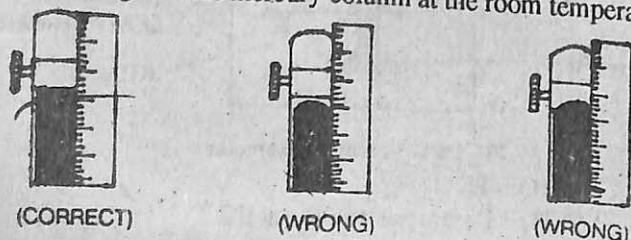

Fig. 24.3.
- (iv) Move the vernier scale with the help of the rack and pinion arrangement which is worked by means of a screw till the lower edge is in level with the upper most convex part of mercury surface in the barometer tube as shown in Fig. 24.3.